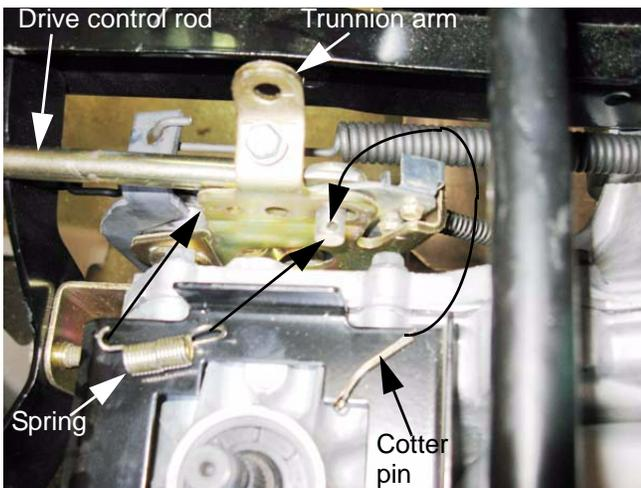

Figure 5.76
11. Disconnect the drive control rod from the trunnion arm of the hydro. See Figure 5.76.